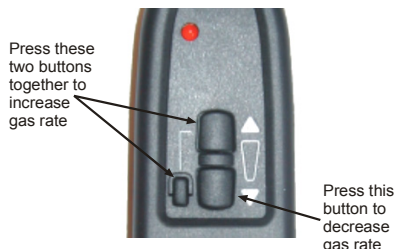

Figure 11 - Handset Operation
6. Using the HANDSET (as shown in Figure 11) press and hold **both the top and the small button together** until the main burner goes to full rate and clicking can be heard from the valve. During this process the main burner will ignite from the pilot.